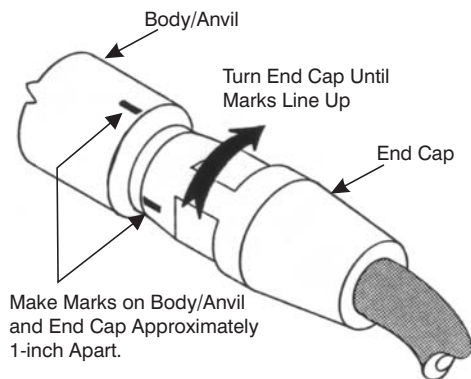

Figure 11-29. Tighten End Cap.
- 8. The End Cap should be tightened to a torque of 550 ft.-lbs (745 nm). If a torque wrench is not available, use the following procedure. See Figure 11-29.